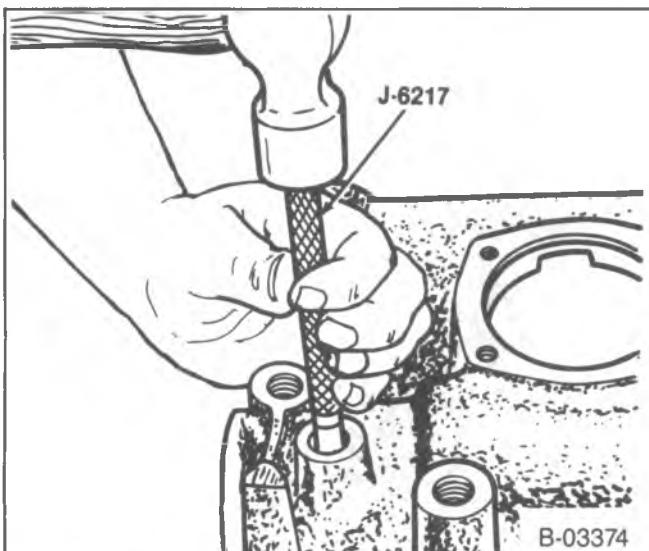

Figure 12—Remove or Install the Connector Seat
16. Connectors (229) (figure 12).
1. Connectors (229), using J-6217 (figure 12).